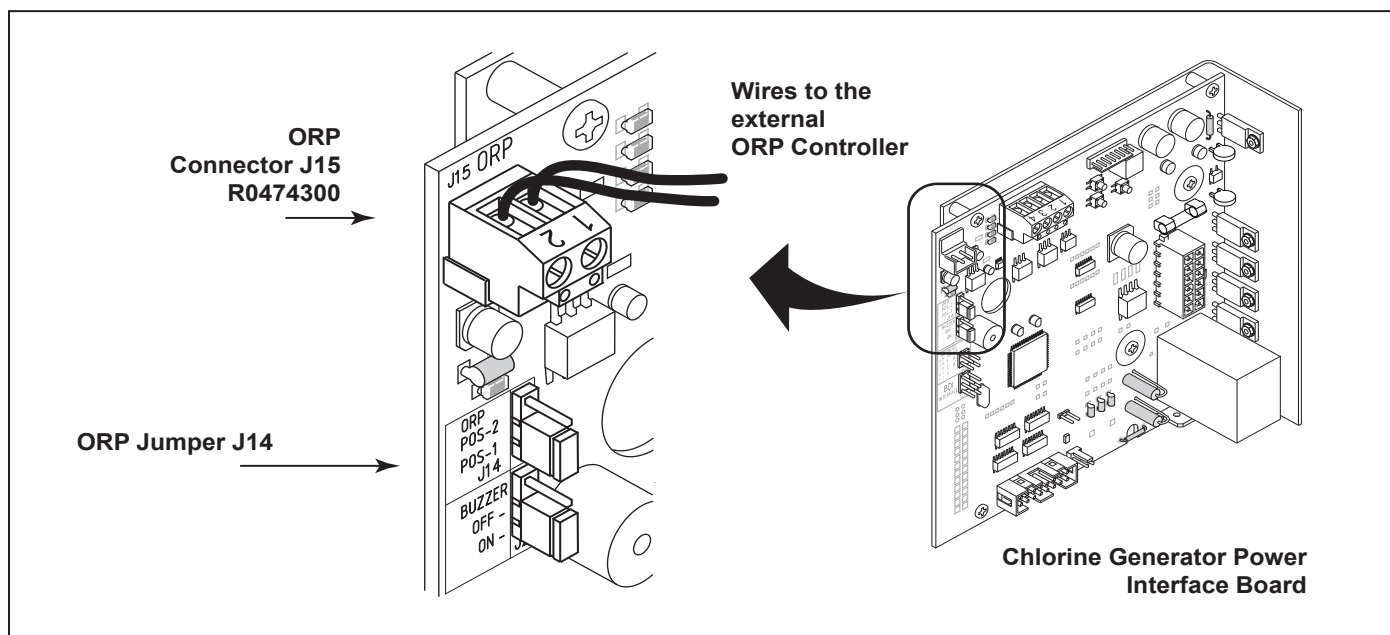

Figure 17. Movable ORP Jumper J14
An external device such as an ORP (Oxidation Reduction Potential) controller supplying 24 Volts AC can be used to control the output of the chlorinator. The chlorinator control board can be set up in the field to operate in two (2) different modes. The mode of operation is determined by the position of a movable jumper J14. See Figure 17 for location.